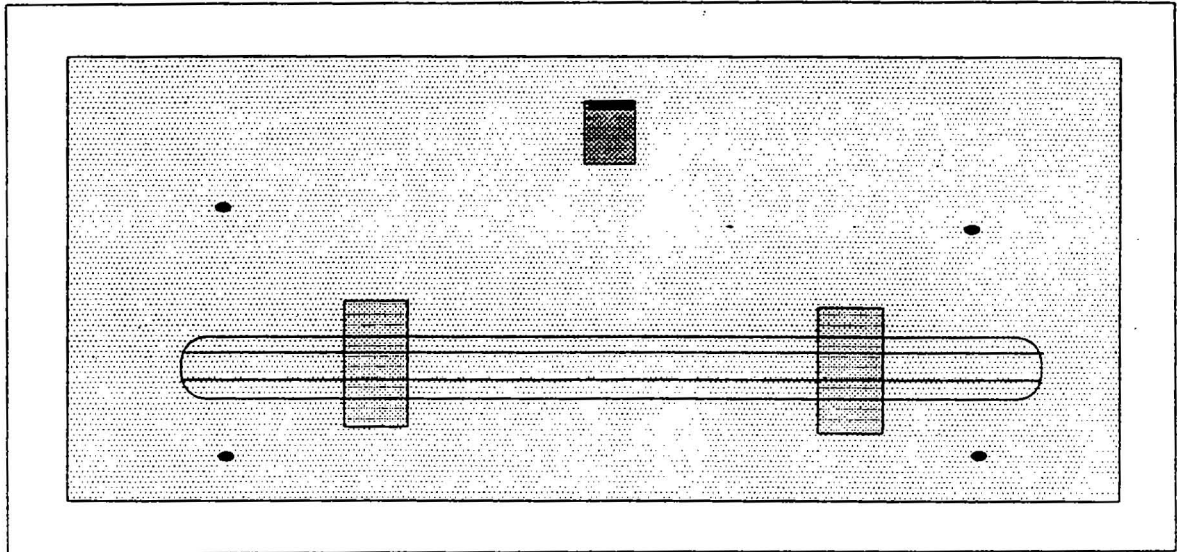

Fig. 5-6 Light Baffle Placement
3. The light baffle should be placed so that the sides of the baffle opening do not interfere with either the primary or reflected beam. Using the Post Its, place one across the baffle opening at both ends of the scan so that both the primary and reflected beams can be observed. See Fig. 5-6.